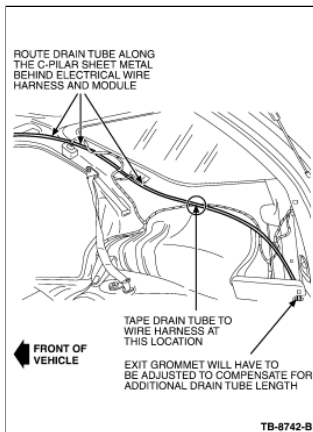

Figure 4 - Article 07-3-6
2. Route drain tube behind electrical wiring located down the C-pillar. (Figure 4)